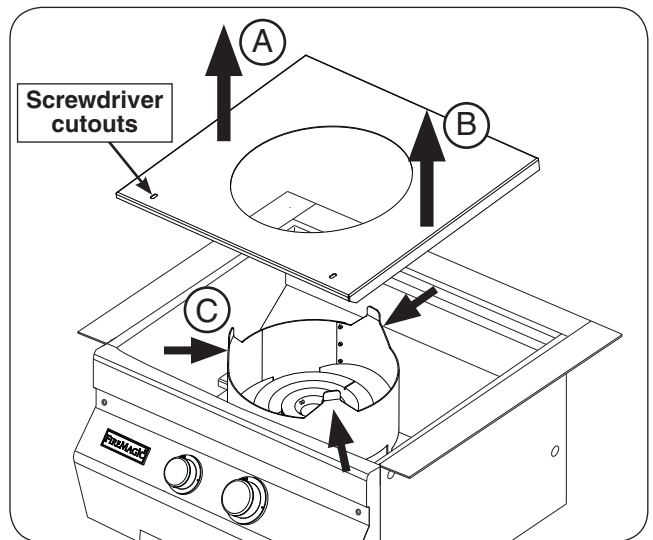

Fig. 34-2 Interior protection plate removal
2. Lift up the interior protection plate from the left side, then lift up from the right side (see Fig. 34-2, A and B).
3. While lifting the plate upward, flex the collimator inward to completely free the protection plate (see Fig. 34-2, C).